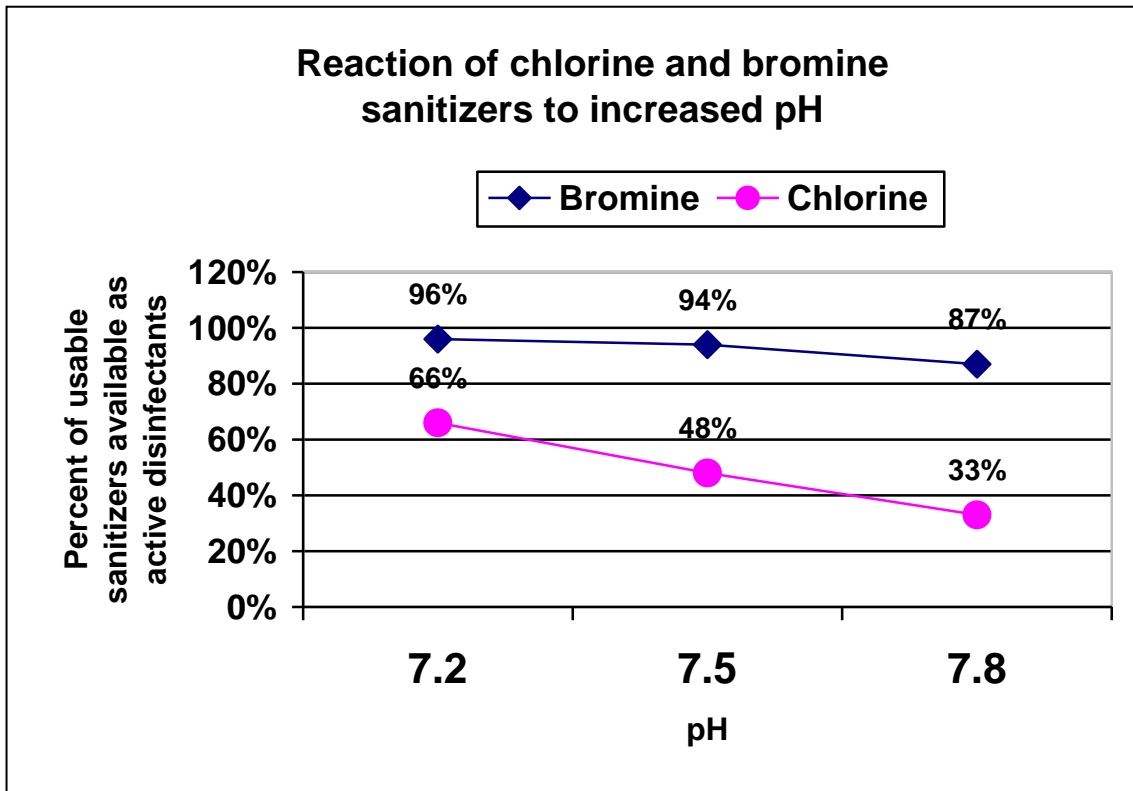

Figure 3.1
3. Chlorine is pH dependent. Proper pH = maximum killing power and dollars saved. See Figure 3.1 on next page.